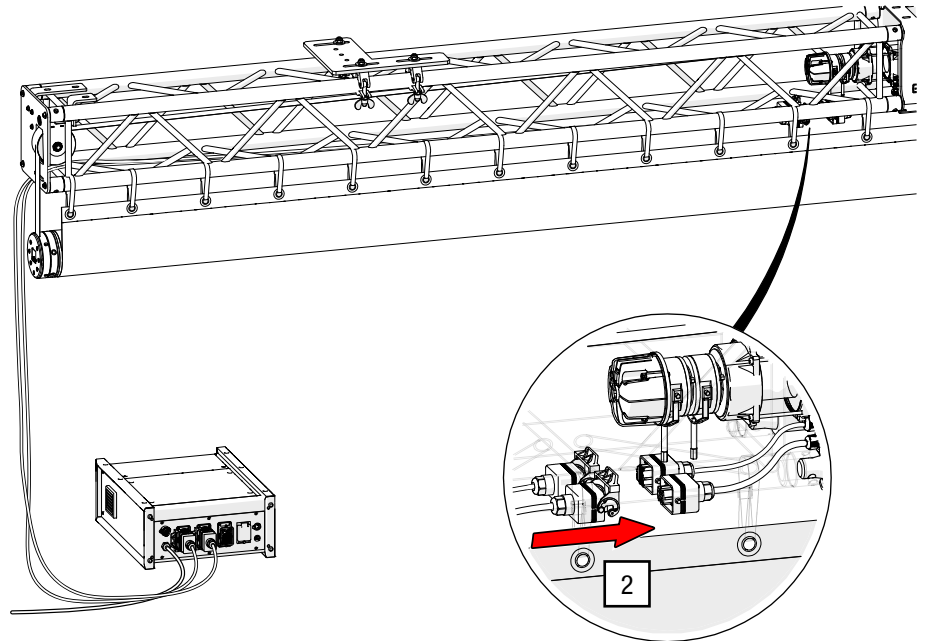

Fig. 29: Connecting the power and control cable to the roller screen
2. Connect the control and power cables previously connected to the control unit to the corresponding 1XXM1 and 1XSM2 connections on the roller screen (see Fig. 29).